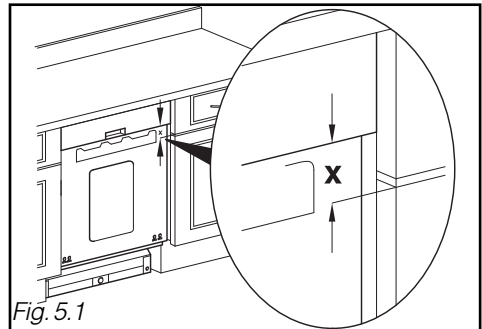

Fig. 5.1
- Measure the dimension **X** between the base of the control panel and the top of the door on the adjacent unit (Fig. 5.1).